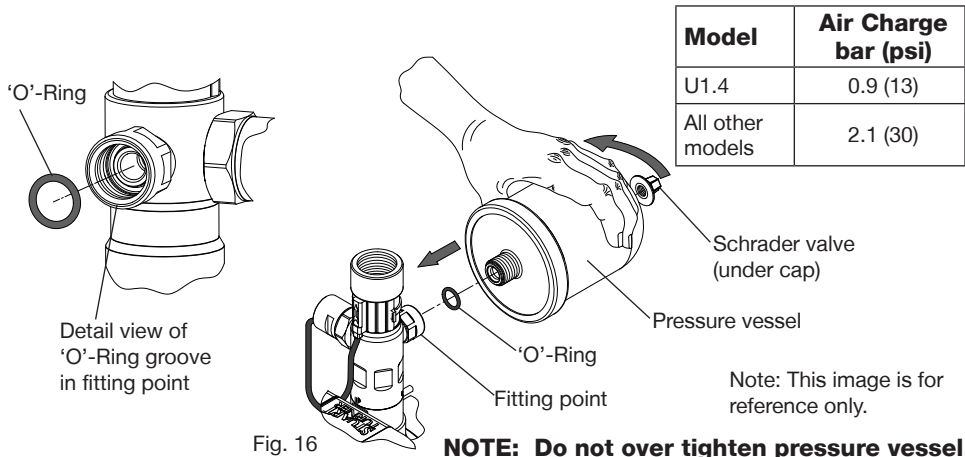

Fig. 16
- Check air charge at Schrader valve (Fig. 16) using a tyre pressure gauge.
- Replenish air charge by injecting air into the vessel via the Schrader valve using a car or bicycle pump (Fig. 16).